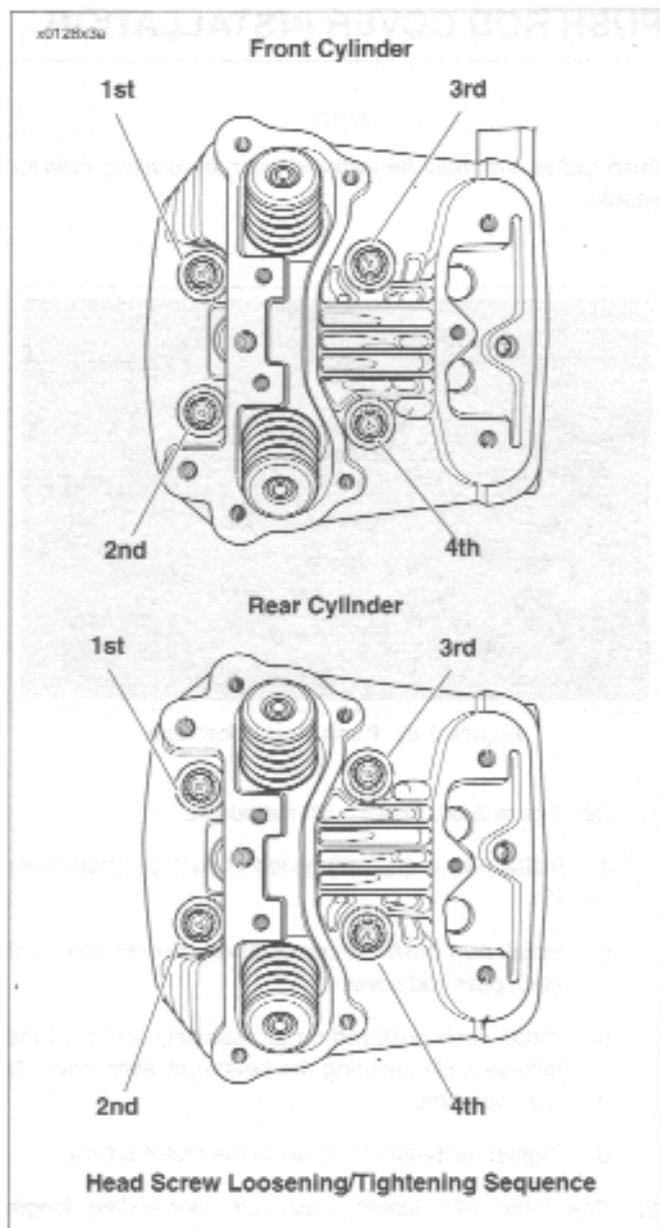

Figure 3-87. Head Screw Loosening/Tightening Sequence
7. See Figure 3-87. For each cylinder head, start with screw numbered one, as shown. In increasing numerical sequence (i.e. - 1, 2, 3 and 4):